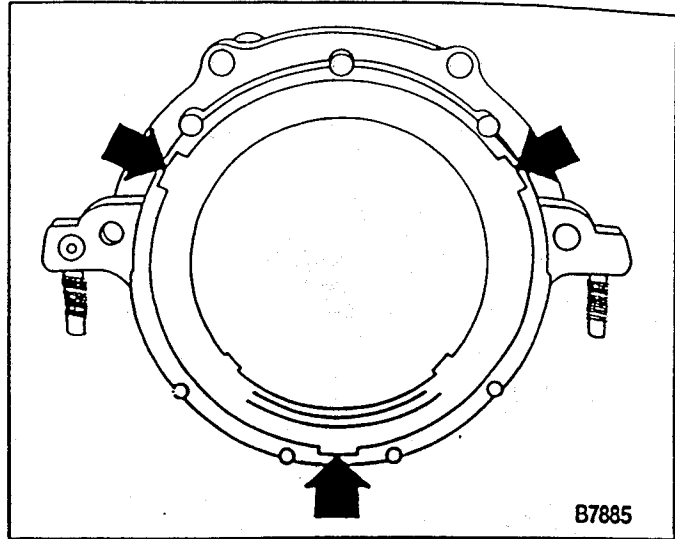

Figure 68—Seal Removal Notches (5.0 and 5.7L Engines)
Disassemble (Figure 68)
- Crankshaft rear oil seal. Insert a screwdriver into the notches provided in the seal retainer and pry the seal out (figure 68).